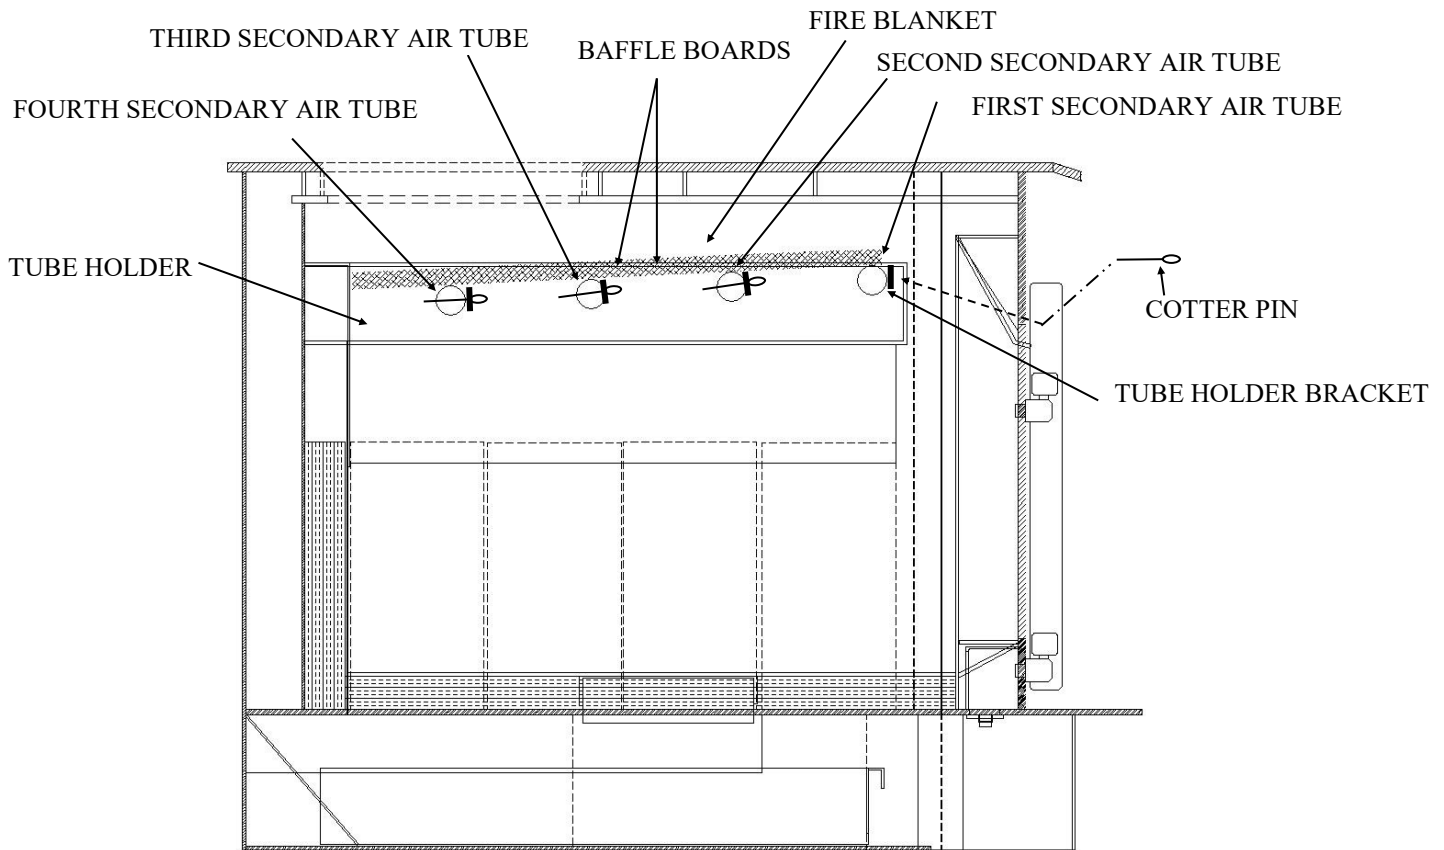

Figure 32
4. Remove air tubes. The (4) secondary air tubes are located in top of burn chamber. On right side of tubes you will find a cotter pin. To remove air tube remove cotter pin and slide tube to left, it will drop down, slide tube to right it should come out. (See Figure 32).